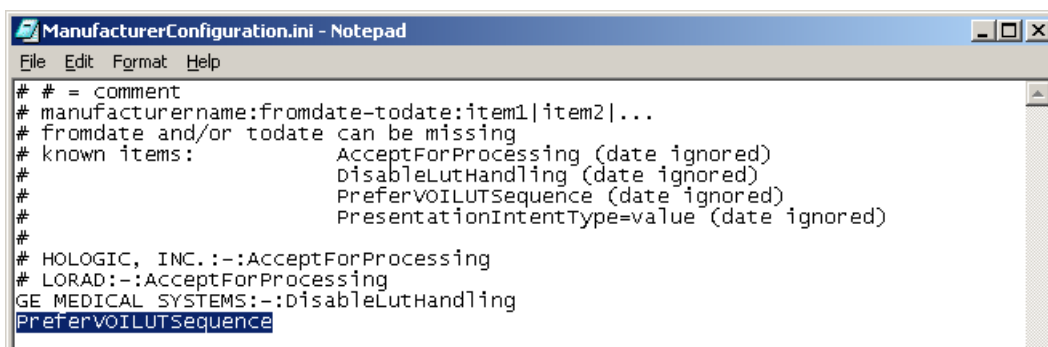

Fig. 11 ManufacturerConfiguration.ini
- If the VOI LUT is to be applied and the W/L pair is to be ignored, enter the line `PreferVOILUTSequence` in `ManufacturerConfiguration.ini` (see Fig. 11).